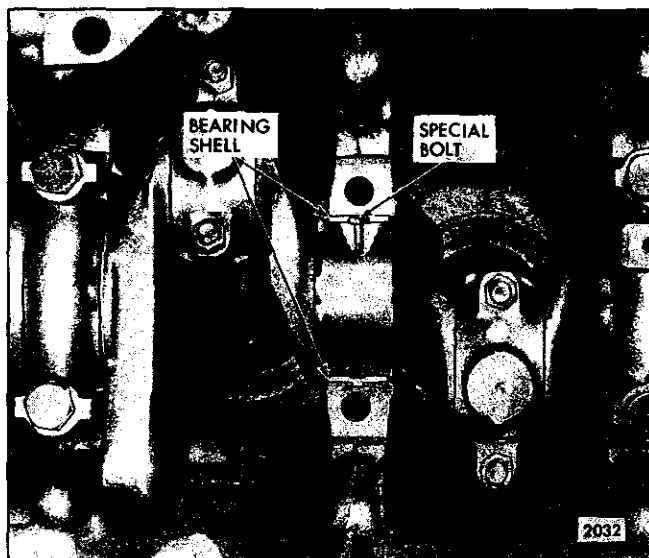

Fig. 4 - Removing Upper Main Bearing Shell (Except Rear Main)
- a. To remove all except the rear main bearing shell, insert a 1/4" x 3/4" bolt with a 1/2" diameter and 1/16" thick head (made from a standard bolt) into the crankshaft journal oil hole. Then, revolve the shaft to the right (clockwise) and roll the bearing shell out of position (Fig. 4). The head of the bolt must not extend beyond the outside diameter of the bearing shell.